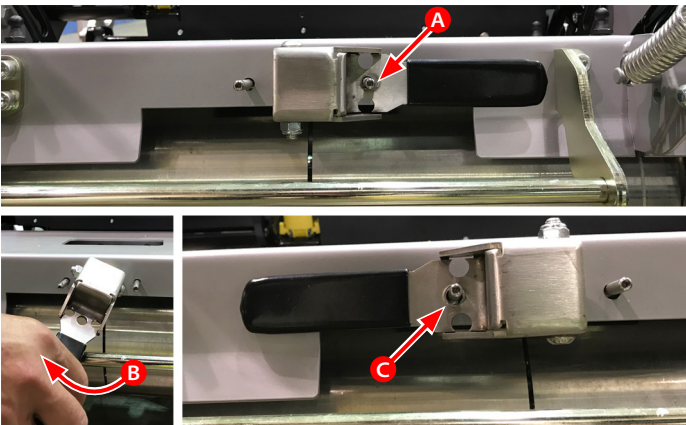

Figure 16
5. Engage parking brake by pulling handle backward off right pin (A), rotating clockwise (B) and securing on left pin (C). See Figure 16.